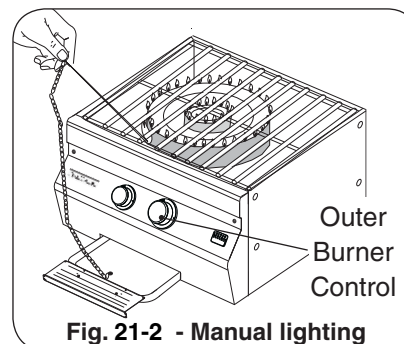

Fig. 21-2 - Manual lighting
WARNING: **DO NOT** put hand directly above the burner when lighting but off to the side as shown (Fig. 21-2).
- 2a. Insert either a burning long-barrel butane lighter, a burning long-stem match, or a burning match held by a wire extension holder through the cooking grids to the desired burner to be lit (Fig. 21-2). **With the flame still next to the burner, depress the corresponding control knob (outer burner-right knob, inner burner-left knob), and while pressing turn it counterclockwise to the HI LIGHT position.** Remove the lighter or match when the burner lights, and release the control knob.
3. If the burner does not light within five (5) seconds of turning the control knob, **IMMEDIATELY** turn the burner control knob to the **OFF** position. **WAIT FIVE MINUTES** before repeating steps 2 and 3 of the **MANUAL LIGHTING INSTRUCTIONS.**